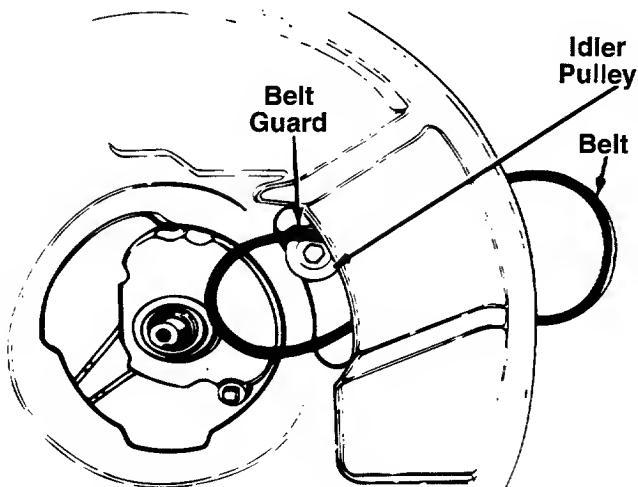

FIGURE 14.
9. Remove the belt from between the idler pulley and the belt guard on the idler pulley bracket. See figure 14.
- A. Push the idler pulley up out of the way as shown in figure 14.
- B. Slide the belt in from the rear of the deck, and place it around the transmission pulley. See figure 14.